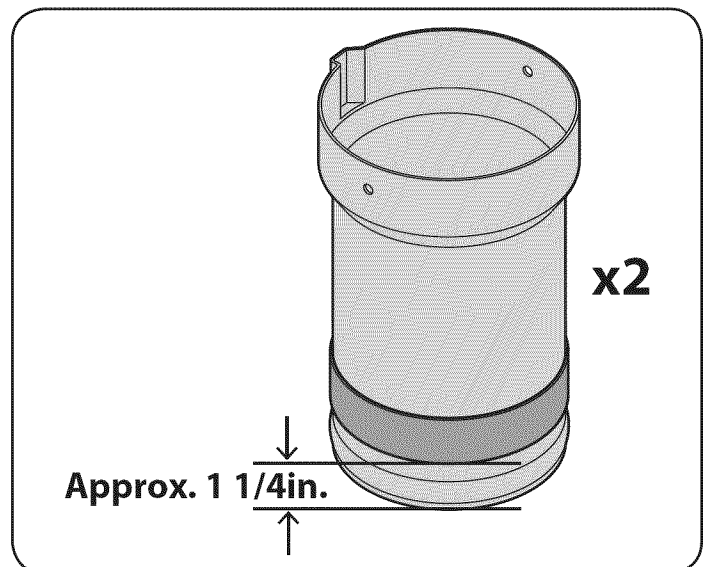

Figure 15
3. Apply a wide adhesive rubber strip, included in hardware pack 689-00342, onto the chute extension tube, approximately 1.25" from the narrow end of the extension tube, which should be approximately a 1/4" above the bead on the narrow end of the extension tube, as shown in Figure 15.